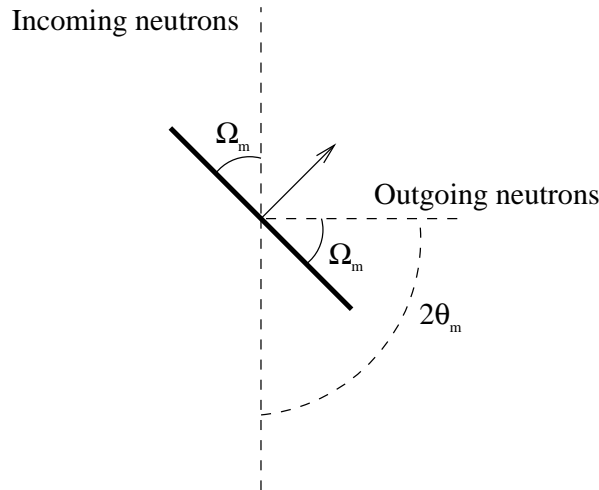

Figure 3: Illustration of the monochromator orientation.
2. Insert the two new arms at (0,0,2) relative to the Origin. Put the Monochromator\_flat component (use the component library index to get the needed parameters) at (0,0,0) relative to the monochromator arm. Also, add two new input parameters of your instrument, which we will call OMM ( $\Omega_M$ ) and TTM ( $2\theta_M$ ). These will define the angles of rotation at the monochromator as portrayed in Figure 3.
3. Given  $\lambda = 4 \text{Å}$ , and knowing that for the monochromator  $\kappa = 1.8734 \text{Å}^{-1}$  (Pyrolytic Graphite (002) reflection), use Bragg's law to determine the correct Bragg angle (*i.e.* OMM/TTM) of the monochromator. Add the OMM and TTM input parameters to the DEFINE line at the beginning